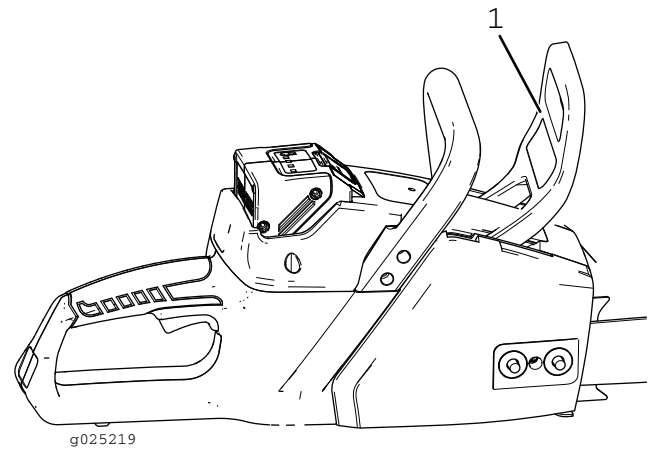

Figure 26
2. Engage the chain brake by pushing the hand brake forward to the stop position (Figure 26).